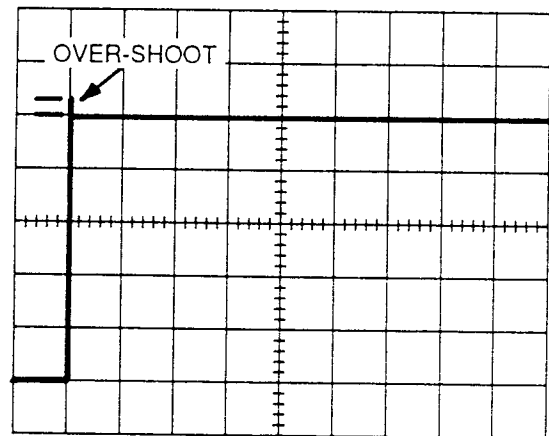

Fig. 4-16. Loop Gain
2. Adjust ZERO REF (SET) and POSITION controls to position the pulse as in Figure 4-16.